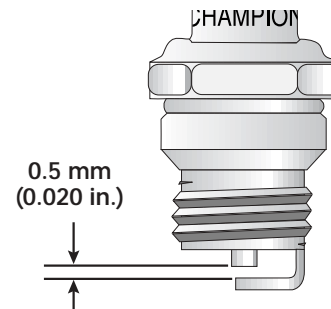

Fig. 28
3. Replace a cracked, fouled or dirty spark plug. Set the air gap at **0.5 mm (0.020 inch)** using a feeler gauge (Fig. 28).